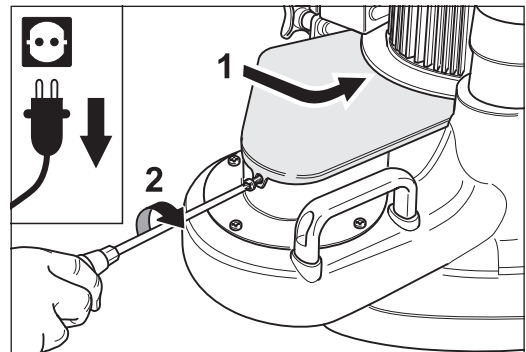

Fig. 100 Insert the V-belt guard into the slot at the motor, push it towards the motor (1) and tighten it with the screw (2).
- 5 Insert the V-belt guard into the slot at the motor and push it towards the motor (fig. 100, 1).
- 6 Insert fixing screw for the V-belt guard and tighten it again (fig. 100, 2).